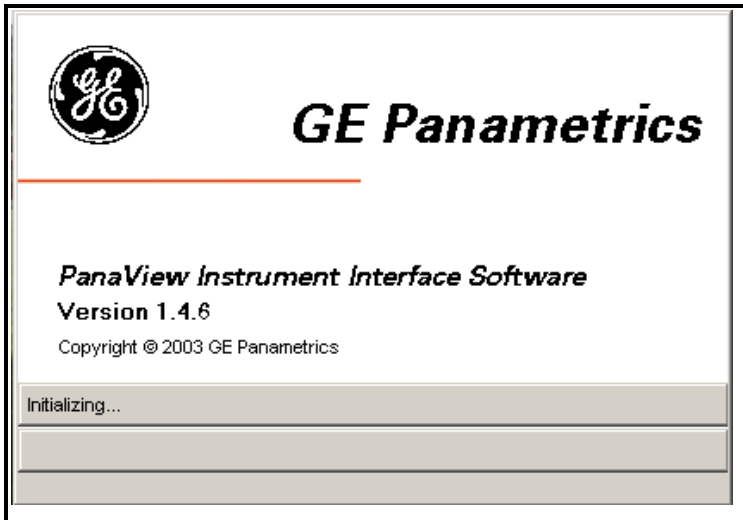

Figure 3-1: Initializing Screen
1. Notice the screen shown in Figure 3-1 below. The Version number of your PanaView software, which may not be the same as the example in Figure 3-1, is shown in this screen.